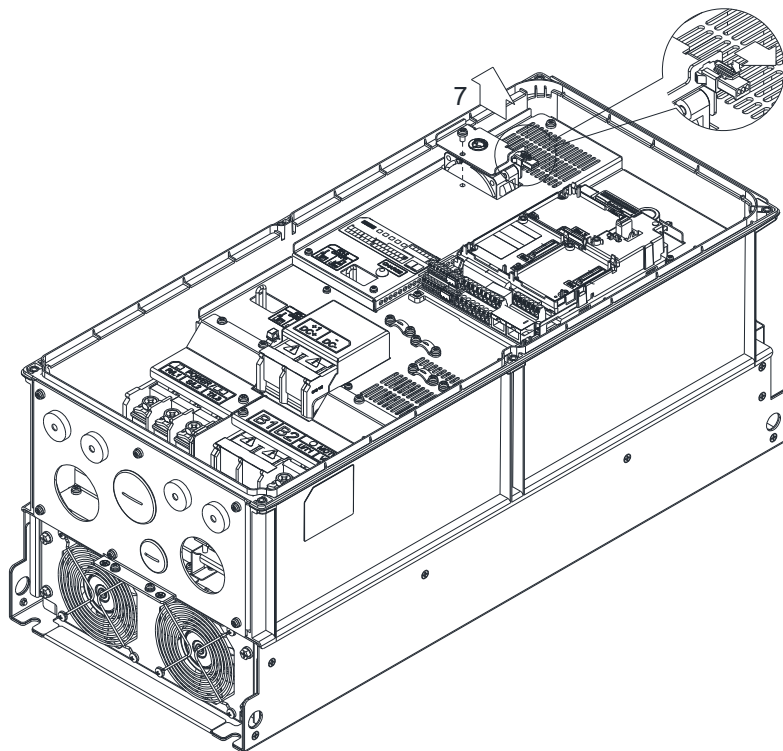

Figure 3
3. Loosen the screw 7 then remove the fan kit.(refer to Figure 3)